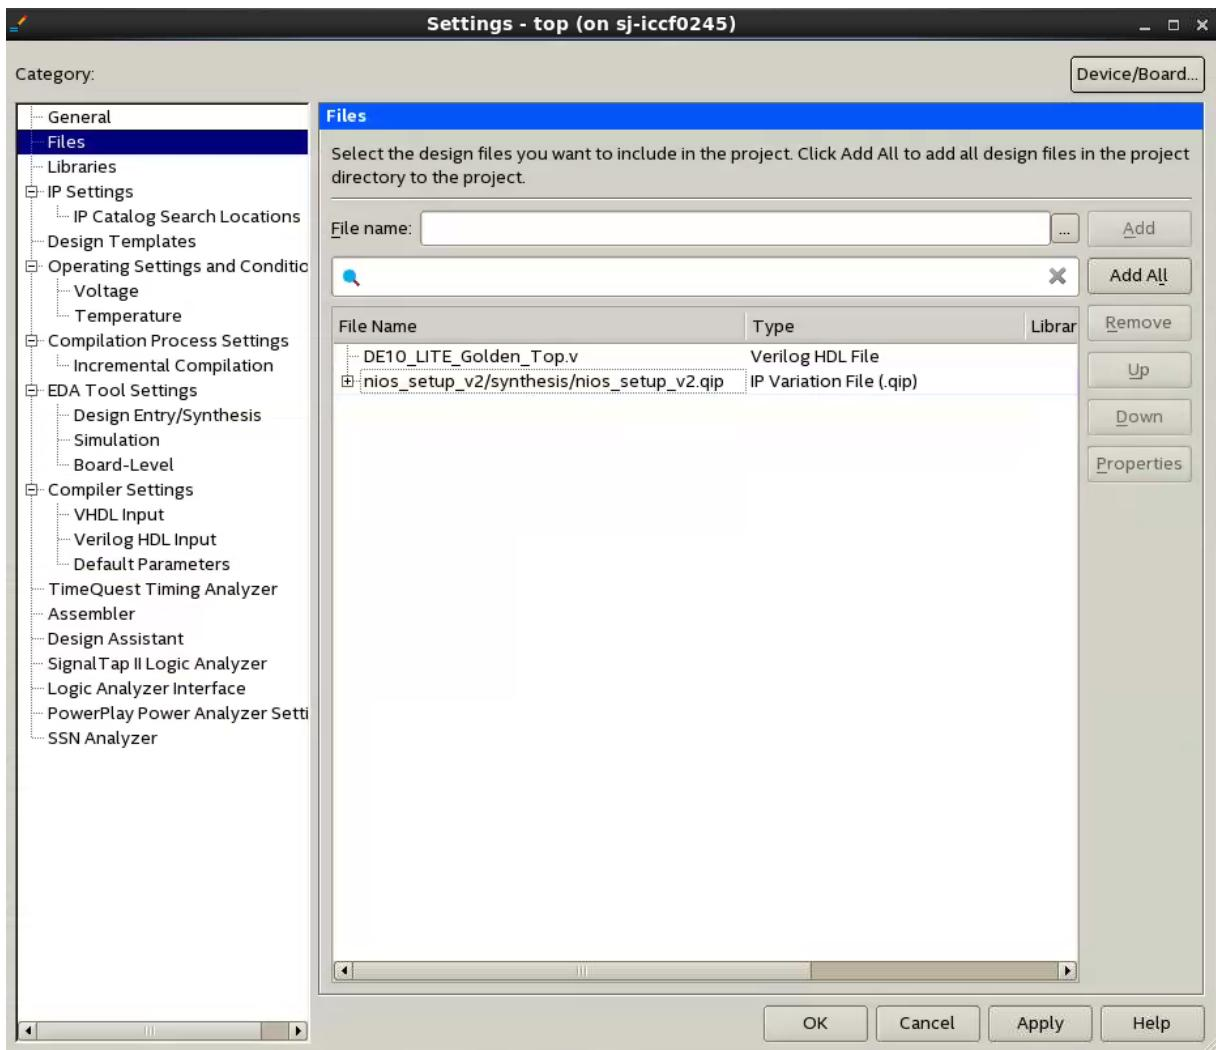

Figure 29: Quartus Add/Remove Files Pane
- b. See Figure 29 below for example.
See Figure 29 for what your Add/Remove Files window should look like. (There may be an extra .sdc file in the list. If this shows up it is ok.)